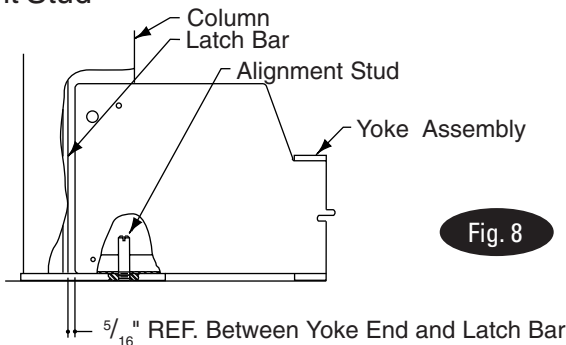

Fig. 8
Note: Columns are not interchangeable. They must be set at their respective corner of the lift. Column double return bend is always to inside of lift, Fig. 9. Place the power unit column at the left rear corner of the lift. The point where the hydraulic hose passes through side of left runway should be visible from this corner. Insert alignment stud through hole in yoke end and thread into base plate of column, Fig. 8. Repeat for other columns.
**IMPORTANT** The yoke/column alignment studs **MUST** be used for proper centering of columns to yokes, Fig. 8. A gap of  $\frac{5}{16}$ " must be maintained between column and yoke. See step 6 B. Note: It may be necessary to remove Plastic Slider from Column Stop on yoke end, Fig. 10, before aligning yoke in column. After yoke is in column, reinstall Plastic Slider and secure with  $\frac{5}{16}$ " button head screw.
- E. REMOVE ALIGNMENT STUDS from all four (4) column bases, Fig. 8.